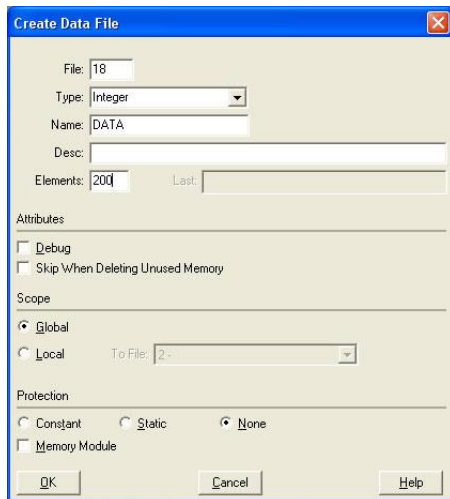

Figure 52: Creating a Data File
- c) Follow the same procedure to create a data file. This file will be used to store the incoming data read from the interface card. Enter a file number (e.g. 18), set the type to “Integer”, enter a descriptive name (e.g. “DATA”), and enter a number of elements (e.g. 200). Refer to Figure 52. Click OK to create the file.